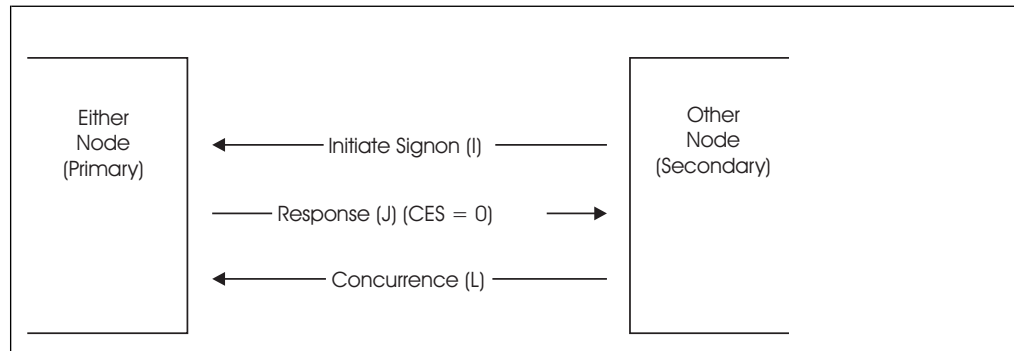

Figure 31. Secondary Trunk Connection
A secondary trunk is a line directly connecting two systems already directly connected when the secondary connection is made and the new line resistance is not less than the original. Because this does not represent a new connection, no CES is assigned and no distinction is made between low end and high end. In this case, the multi-trunk flag must be set on in the response (J) record. If the new line resistance is less than the original, this becomes the primary trunk with the CES not equal to zero. Figure 31 on page 171 illustrates secondary full trunk connection protocol.